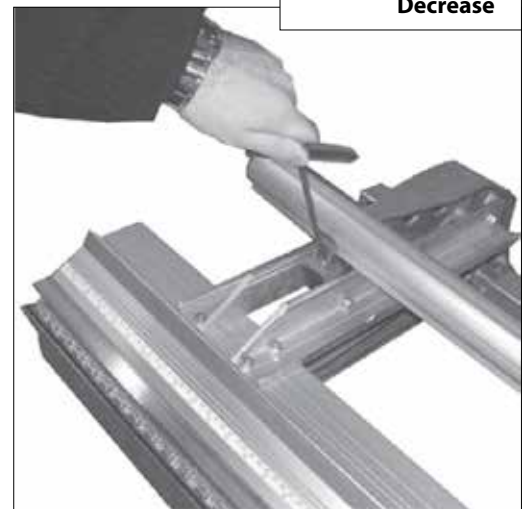

Figure 2
1. Insert the 3/16" hex wrench into the Power Link Stud (Fig. 2).